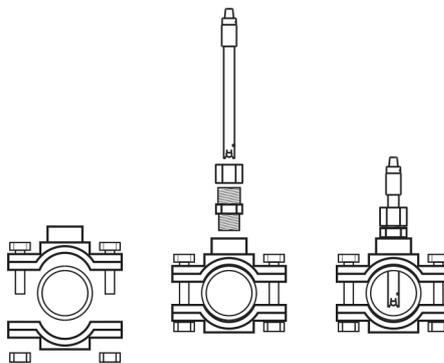

Fig. 7
1. Install the pH and ORP electrode holders in the circuit through ½" saddles (not included with the equipment) (Fig. 7).